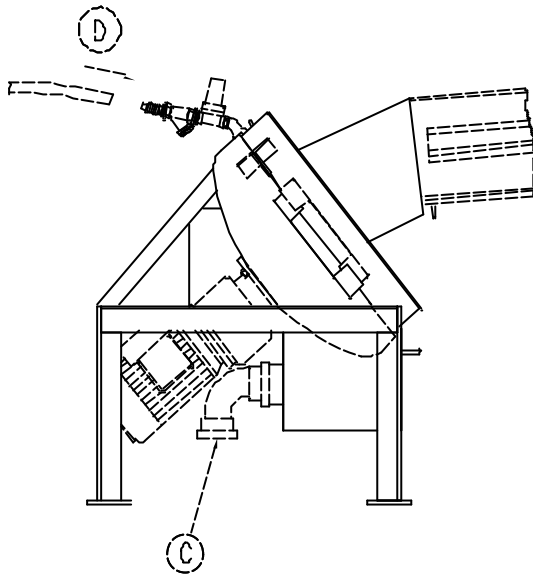

Figure 9: Mounting the washer
- V. Press the enclosed curved waste-water pipe as far as possible onto the drain connection of the dirt box. Connect the other end of the waste water pipe as suitable to the existing drain. See Figure 9: Mounting the washer at (C)
- VI. Connect a ½" water hose between the water connection nipple and a water tap. Open the tap completely. See Figure 9: Mounting the washer at (D)
- V. Press the enclosed curved waste water pipe as far as possible onto the drain connection of the dirt box. Connect the other end of the waste water pipe in a suitable manner to the existing drain. See Figure 9: Mounting the washer at (C)